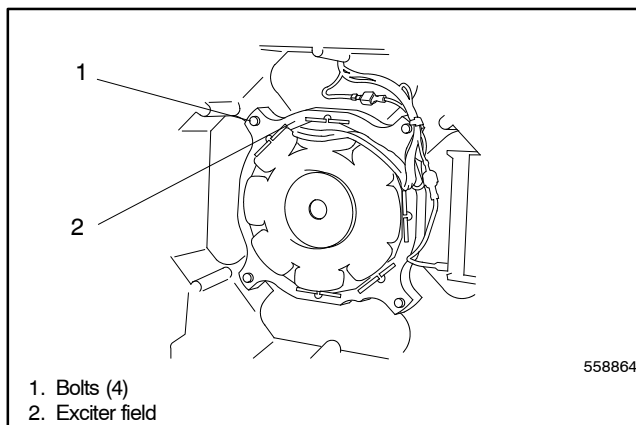

Figure 4-7 Exciter Field Removal
- a. Remove the four bolts to remove the exciter field. See Figure 4-7.